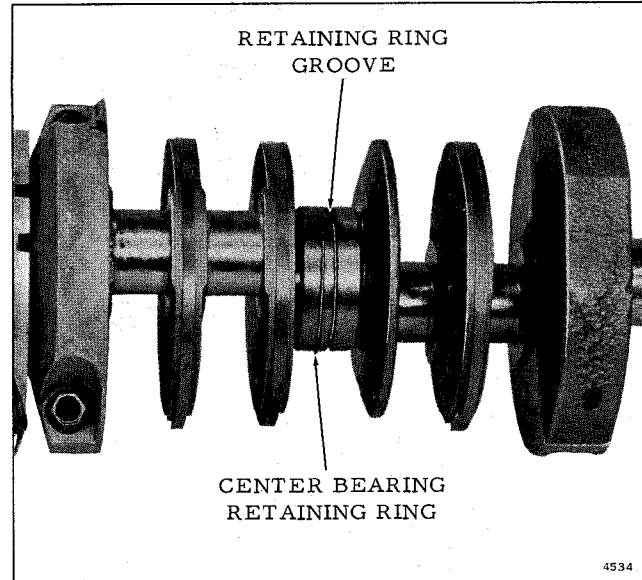

Figure 5-15. Removing Center Journal Bearing
f. The center journal needle bearing may be removed by lifting the retaining ring, sliding it to one side, and separating the two halves of the bearing. See Figure 5-15.